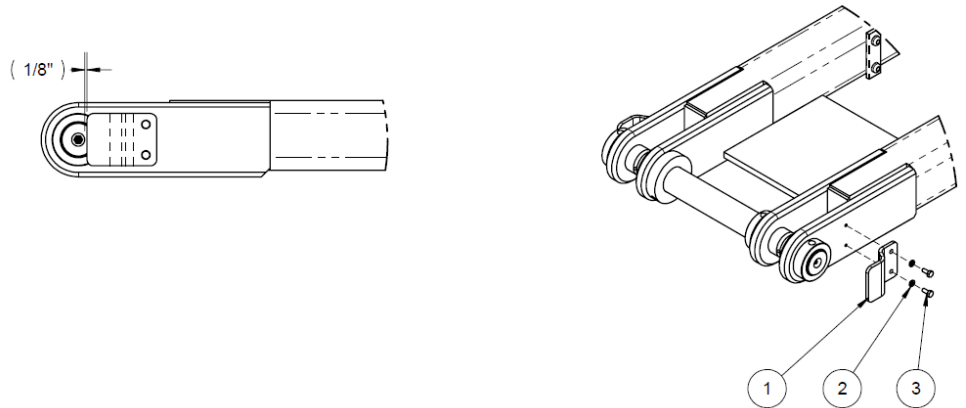

Figure 2
Step 2: Add plate hardware as shown in Figure 2. Note that the plate will not interfere with the grease point for the pin to retain full function capabilities.